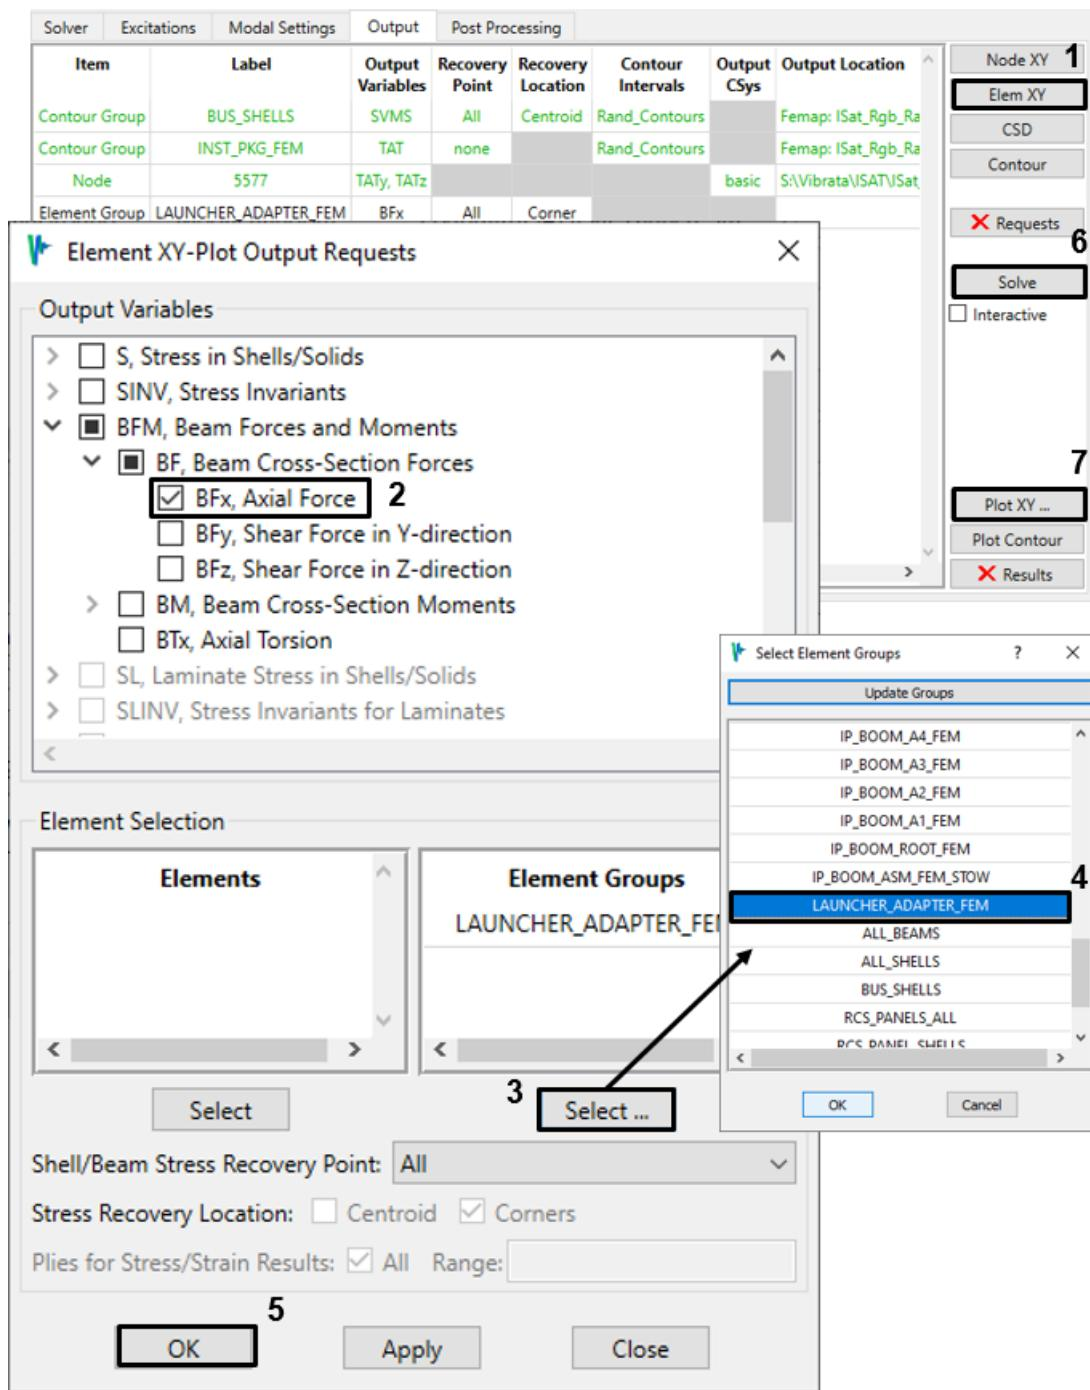
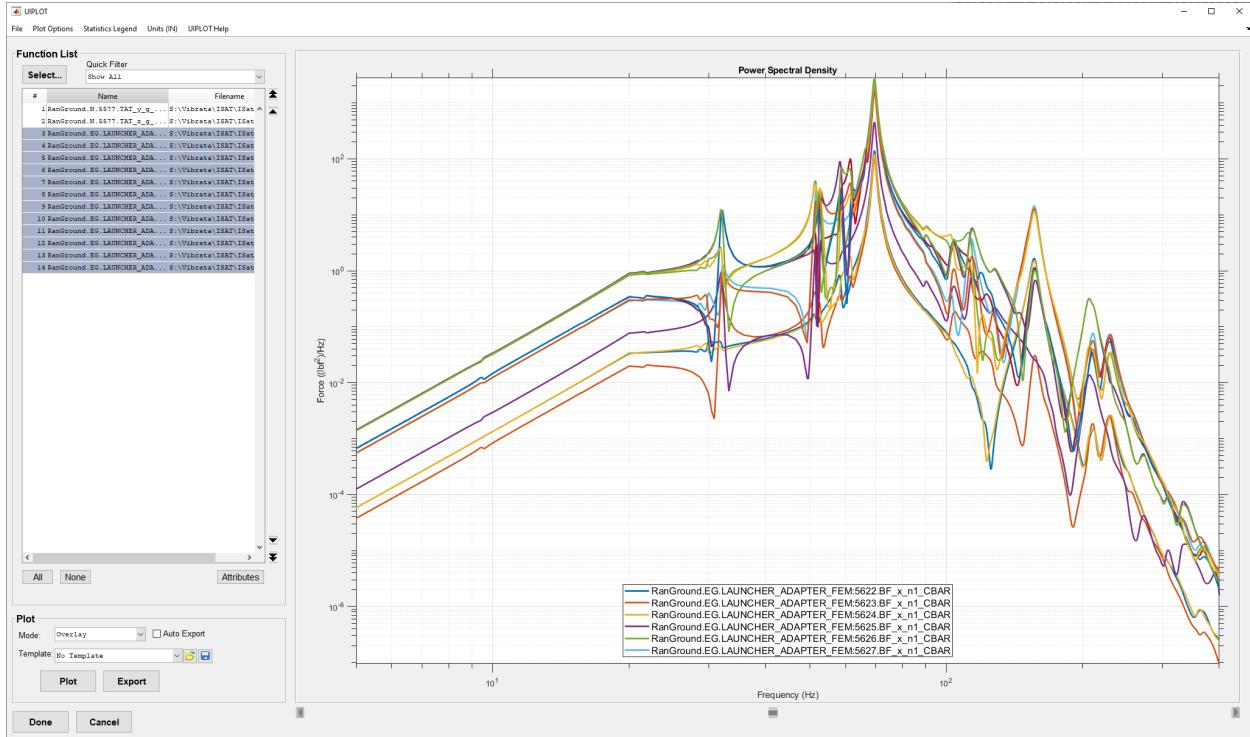

Figure 4-51. Request axial forces in the launcher adapter legs.
Figure 4-52. Axial forces in the launcher adapter legs, rigid base.
9. It is also important that we not exceed allowable loads in the launcher adapter legs. Request axial force responses for the elements in group "LAUNCHER_ADAPTER_FEM" (Figure 4-51). Solve and plot (Figure 4-52). The RMS values, along with other statistics about the functions, can be displayed using the UIPLOT dialog's *Statistics Legend* menu. Note that element 5632 has the largest RMS value.